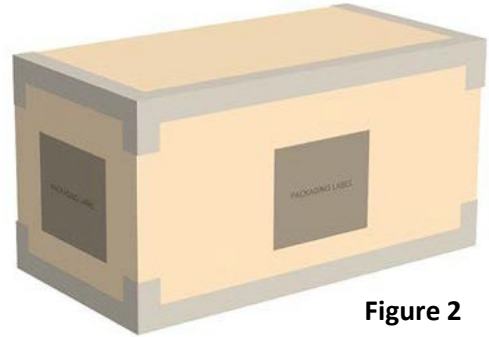

Figure 2
2. All FOL (Full Overlap) master cartons should be taped on three edges (reference Figure 2 at right)